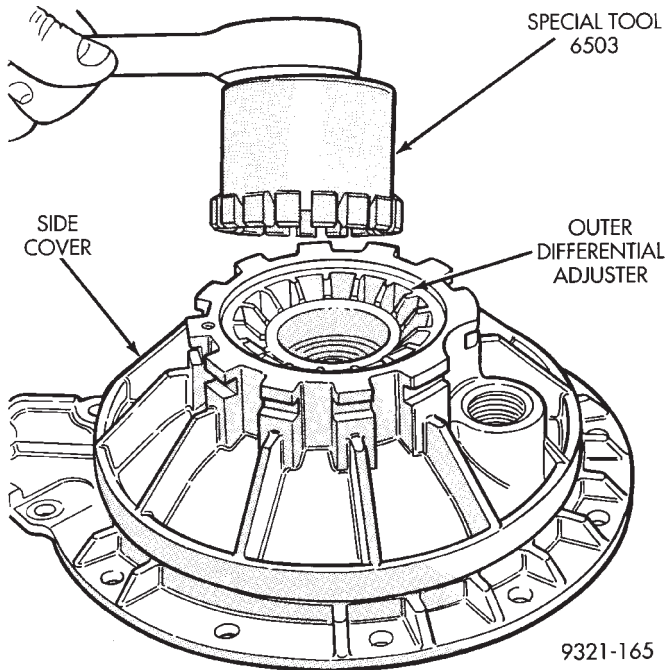

Fig. 263 Outer Adjuster Removal
(20) Remove outer adjuster with special tool 6503 (Fig. 263).